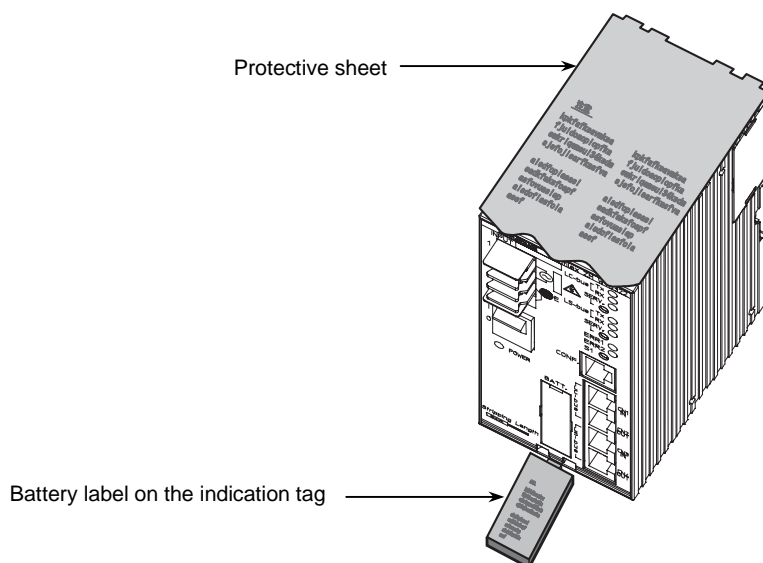

Figure 10. Battery label on the indication tag and protective sheet
- Peel off the protective sheet on the top surface of the product before turning on the power. (See Fig. 10)